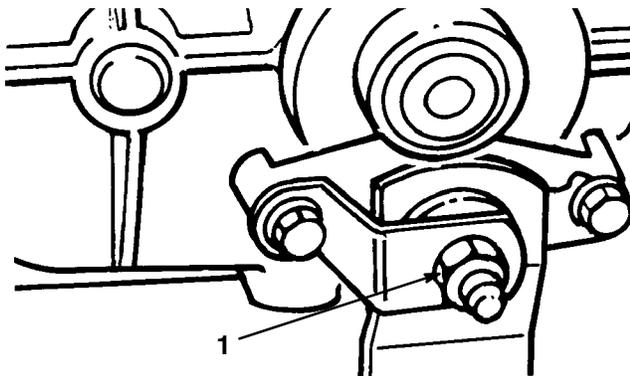

Figure 16
Adjust the brake pucks if the parking brake does not hold or braking power is not sufficient when the brake pedal is depressed. The brake is located on the left side of the transaxle (Fig. 16).
3. Tighten the locknut approximately 1/4 turn clockwise (Fig. 16).